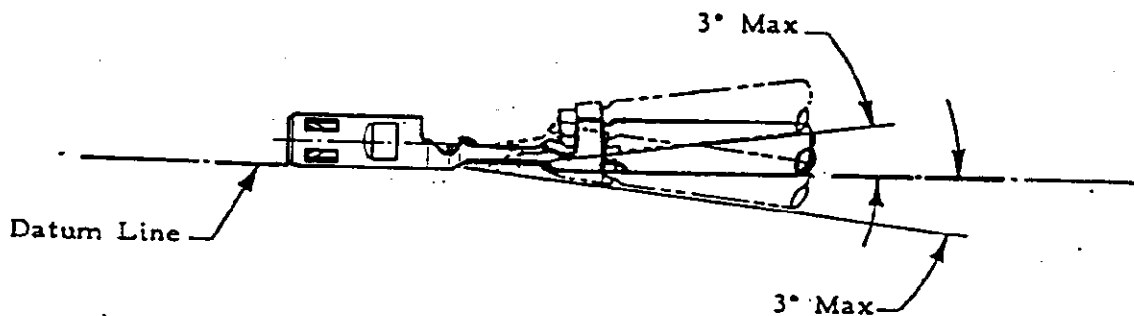

Figure 2
- (1) The contact, including the cutoff tab and burr shall not be bent above or below the datum line more than the amount in Figure 2.